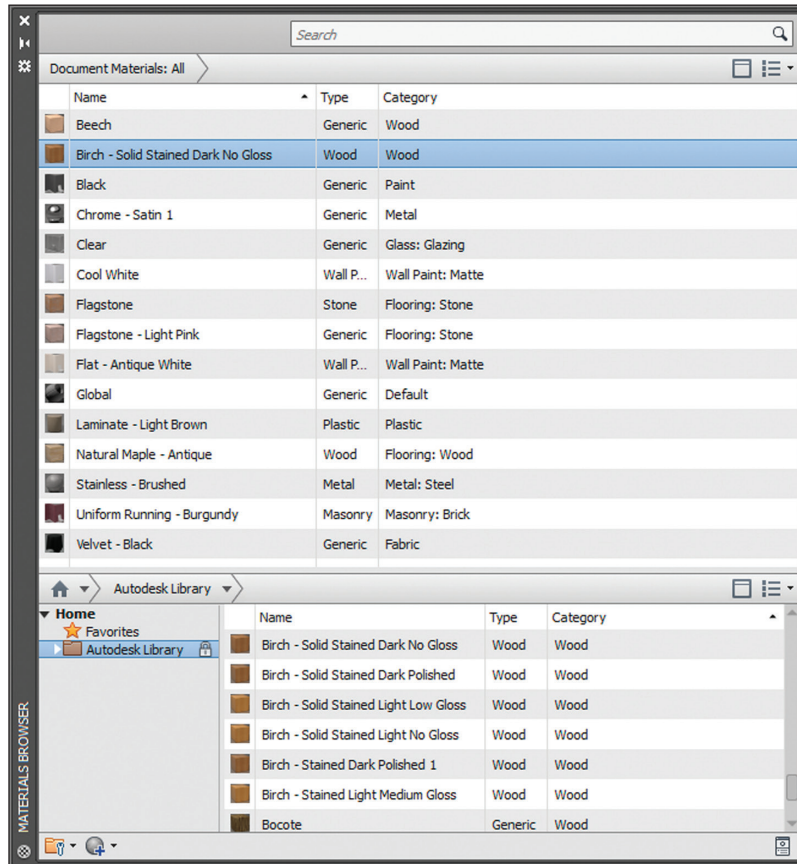

FIGURE 18.3 List of materials loaded into the current drawing
4. Drag the horizontal separator that splits the Materials Browser into two panes down. Figure 18.3's top pane shows all the materials loaded into the current drawing. Close the Materials Browser.